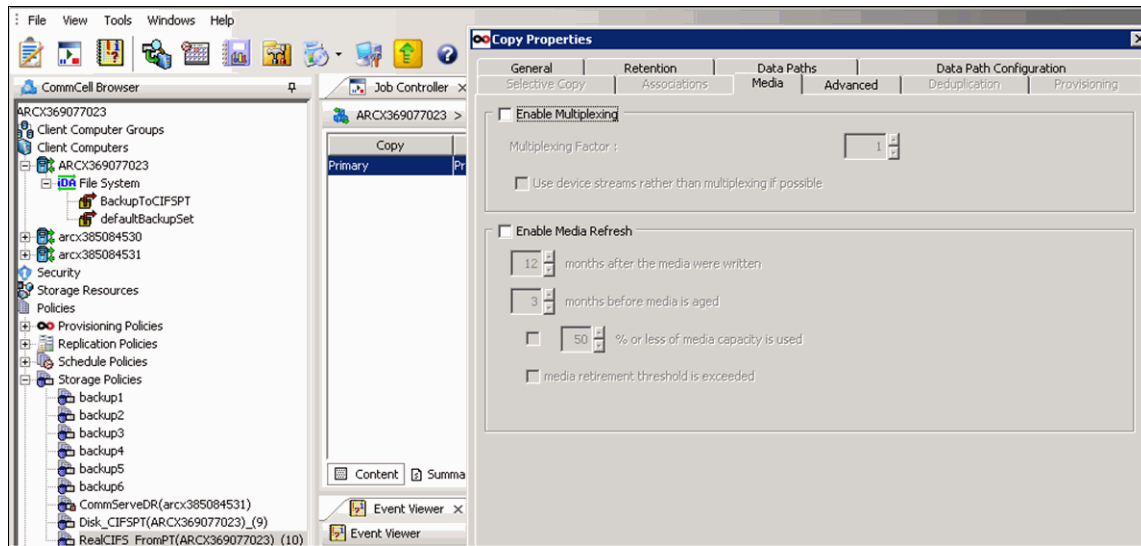

Figure 19-19 Clear Enable Multiplexing
2. From the Copy Properties (Media) window, clear the **Enable Multiplexing** check box (Figure 19-19).